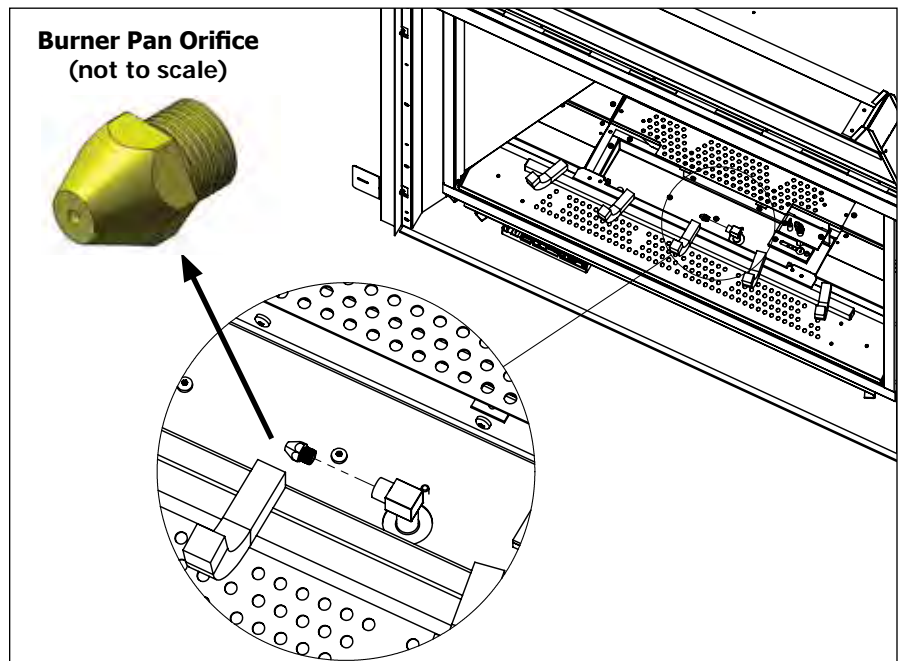

Figure 26: Burner Pan Orifice Location
4. Convert the burner pan orifice with the one provided in this kit using a **ratchet and 3/8" socket** (figure 26).